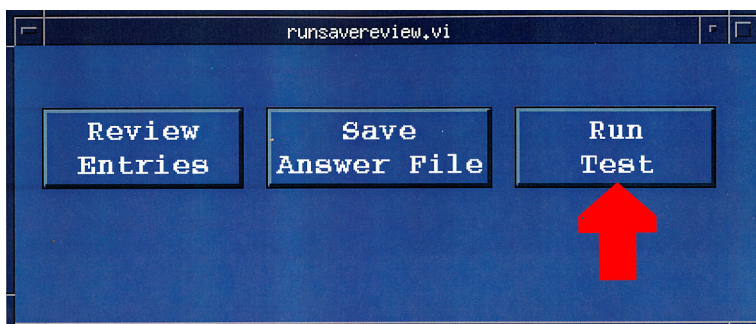

Figure 14
- 7.9.8 The "runsavereview.vi" screen will appear. See Figure 14. Click on the "Run Test" button. See the arrow in Figure 14.